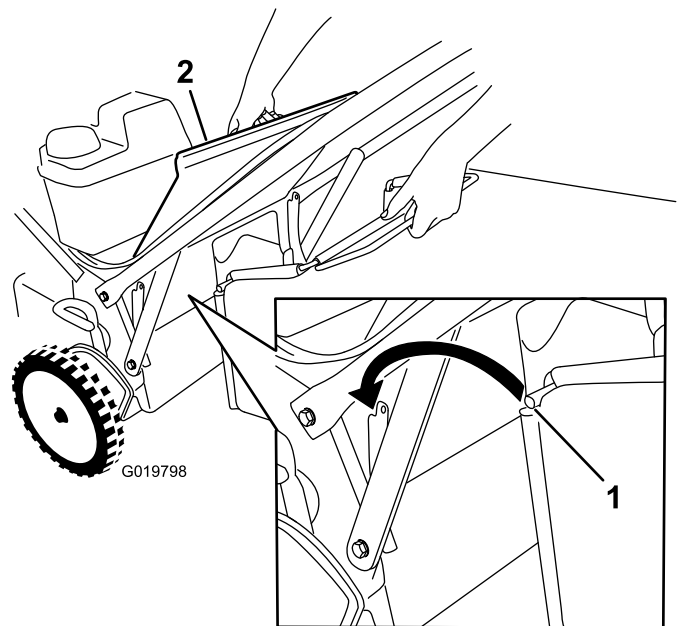

Figure 19
1. Raise and hold the rear deflector (Figure 19).
3. Install the bag rod into the notches at the base of the handle, and rock the bag back and forth to ensure that the rod is seated at the bottom of both notches; refer to Figure 19.